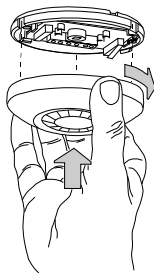

Figure 4 - Installing the Cover
- D. Mount the base (equipped with the printed circuit board) in the location selected for optimum coverage. Using the two mounting holes at the back of the base fasten the unit firmly to the mounting surface to avoid possible vibrations. (Figure 4).